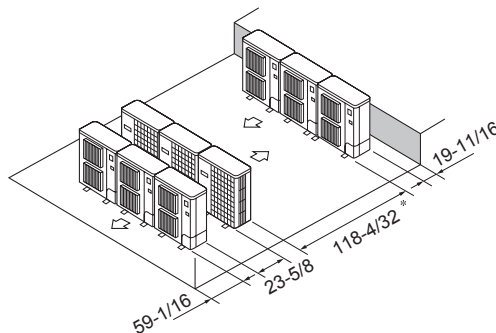

Fig. 3-16
⑥ Multiple parallel unit arrangement (Fig. 3-16)